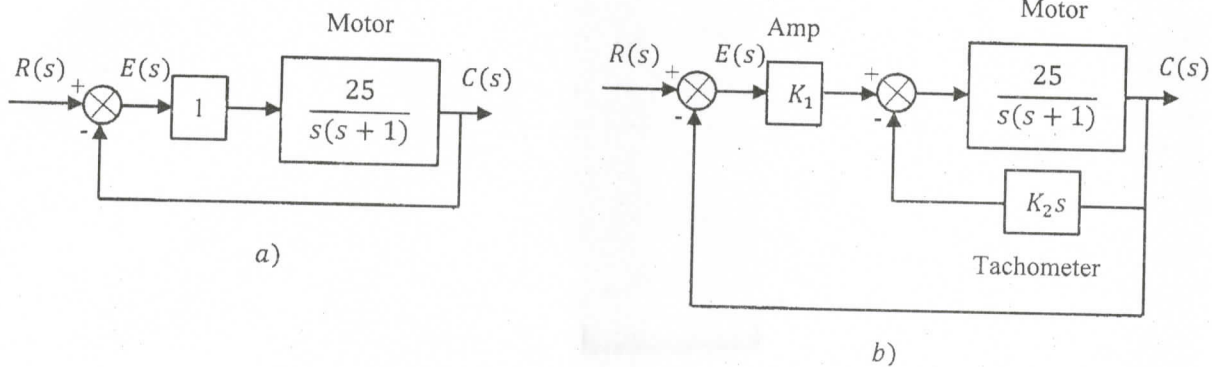

Fig. 4. a) position control, b) position control with tachometer
Assume that the motor whose transfer function is shown in Fig. 4\_a is used as the forward path of a closed-loop, unity feedback system.
- You want to improve the response found in Part (a). Since the motor and the motor constants cannot be changed, an amplifier and a tachometer (voltage generator) are inserted into the loop, as shown in Fig. 4\_b. Find the values of  $k_1$  and  $k_2$  to yield a 16% overshoot and a settling time of 0.2 second.
**Question (5)**